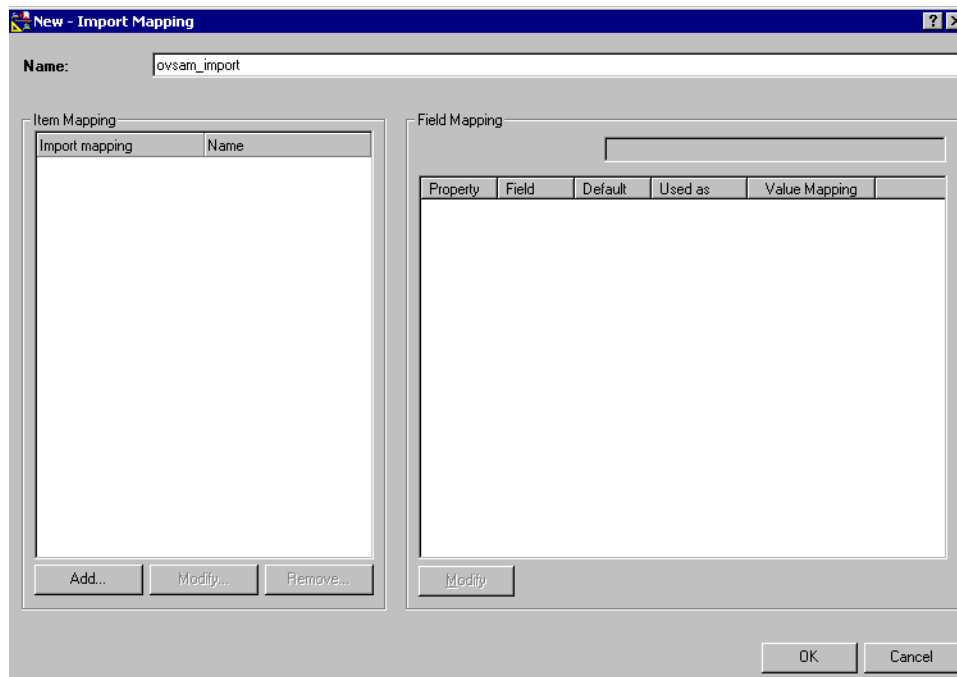

Figure 12: New Import Mapping Dialog Box
2. Right-click anywhere on the Import Mapping window and select **New Import Mapping**. The New Import Mapping window opens as shown in Figure 12.